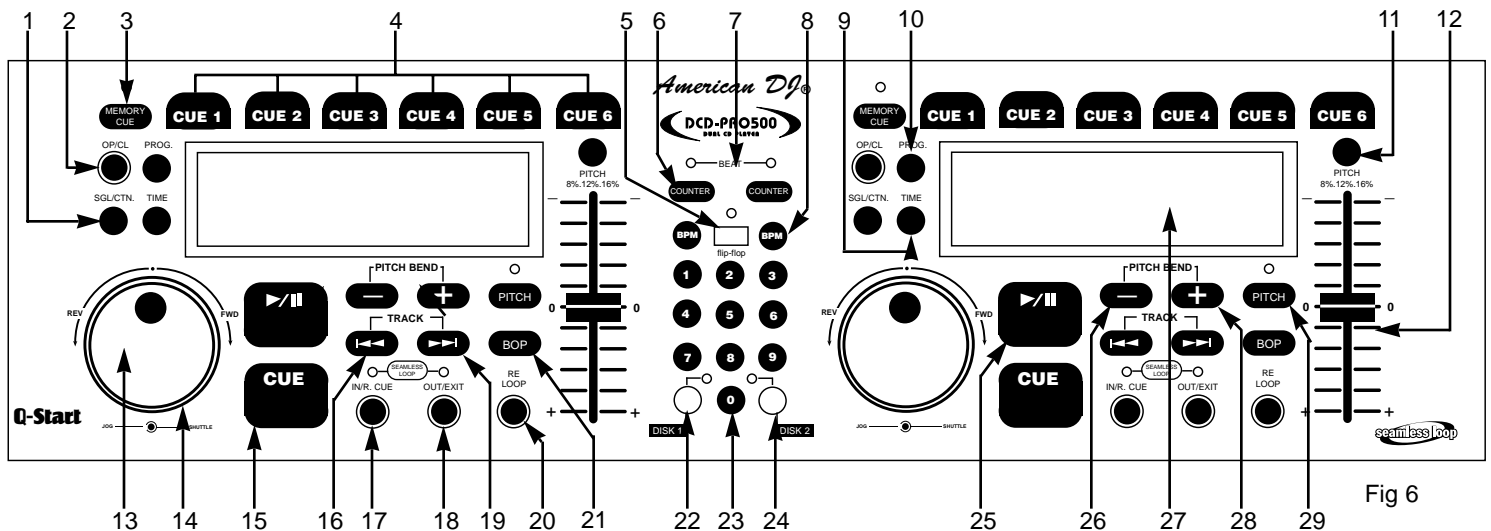

Fig 6
A. REMOTE UNIT FRONT (FIGURE 6)
4. CUE BUTTONS 1-6 - There are 7 independent cue points that can be stored into memory, six (6) on cue buttons 1-6 and one (1) on main **CUE BUTTON (15)**.